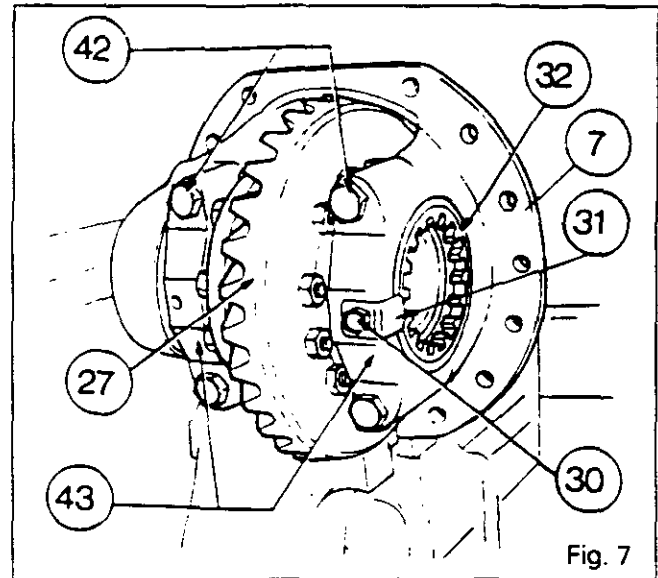
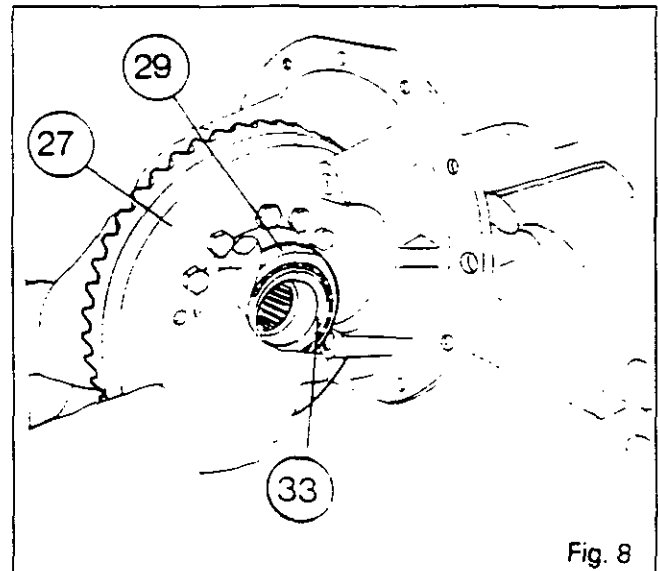

Fig. 7
Fig. 8
17. Place the casing (7) in a soft-jawed vice (Fig. 7).
18. Remove the bolt (30) and its retainer (31) (Fig. 7).
19. Remove the splined nut (32) using the special, locally made spanner (see section M).
20. Remove the four screws (42), detach the bearing halves (43) (Fig. 7).
- Note : Carefully remove the bearing half on the lock control side ; with the spring /17/ compressed, the washer (21) should remain in the casing (7).**
21. Remove the complete differential assembly with the bearing cones (33) and the cups (29) (Fig. 8). Separate the cups from the taper roller bearings. Remove the shim(s) [22].
22. If necessary, extract the two bearing cones (33).
23. Place the differential assembly in a soft-jawed vice. Remove the nuts (28). Take out the bolts (23).
- Note : Prior to disassembly, mark the position of the bearing halves (25) and (26) and of the cover (24) so that they can be paired when refitting.**
24. Separate the bearing halves (25), (26) and the cover (24).
25. Remove the gear (11) and washers (35).
68. Place the other washer (35) on the other gear (11). Place the assembly in the housing half (26), taking care to ensure that the position of the tab of the washer (35) is correct.
69. Position the housing half (26) assembly on the housing half (25) maintaining the assembly position marked at the time of dismantling.
70. Position the crownwheel (27) on the housing half (26). Fasten together the housing halves (25) and (26), the cover (24) and the crownwheel. Fit the bolts (23) and smear them with Loctite 270. Tighten the nuts (28) to a torque of 79 - 87 Nm.
71. Position the cups (29) on their cones (33).
72. Place the crownwheel assembly in the casing (7) (Fig. 8).
73. Check that the centring bushes (44) are present. Fit the shims (22). Position the bearing halves (43). Moderately tighten the bolts (42) so that the cups (29) move freely.